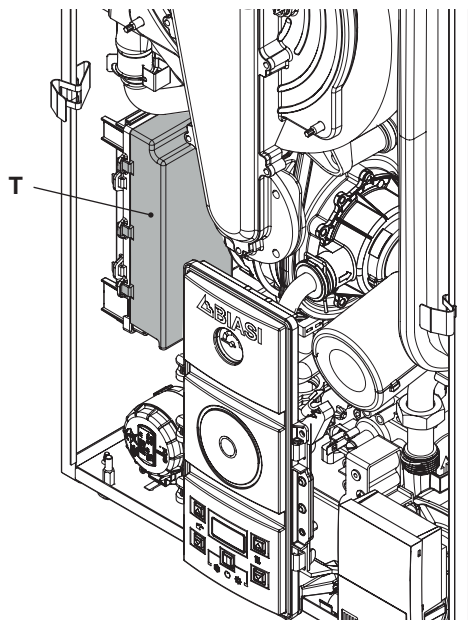

Fig. 6.15
- Identify the terminal block cover lid "T" (Fig. 6.15) and open it.